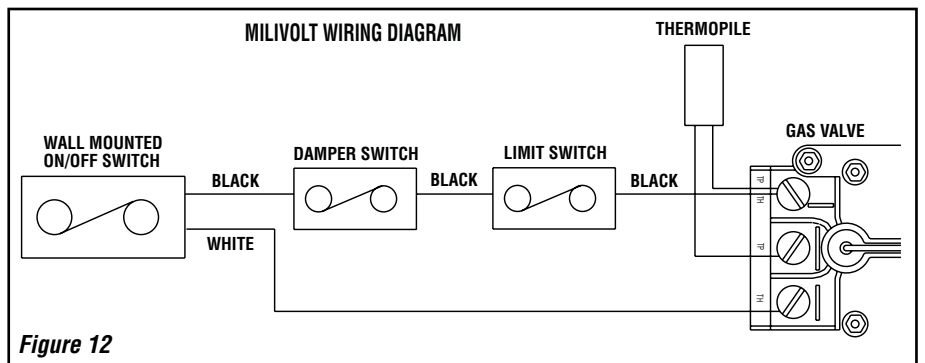

Figure 12
A. Millivolt Wiring – Units are fitted at the factory with an SIT millivolt gas control valve. The valve has been tested with and approved for use with these appliances and is listed accordingly. Refer to **Figure 12** for the wiring diagram.
The gas valve has been set in place and has been pre-wired at the factory. Locate the wall switch (not provided) or optional remote control in the desired location and connect the millivolt wire (**see Figure 12**).